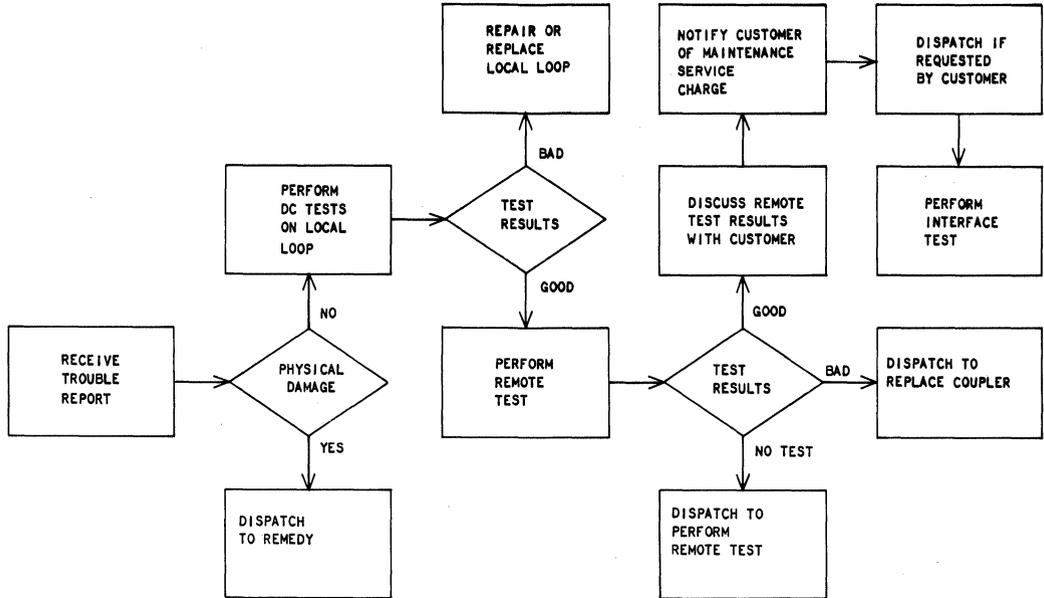
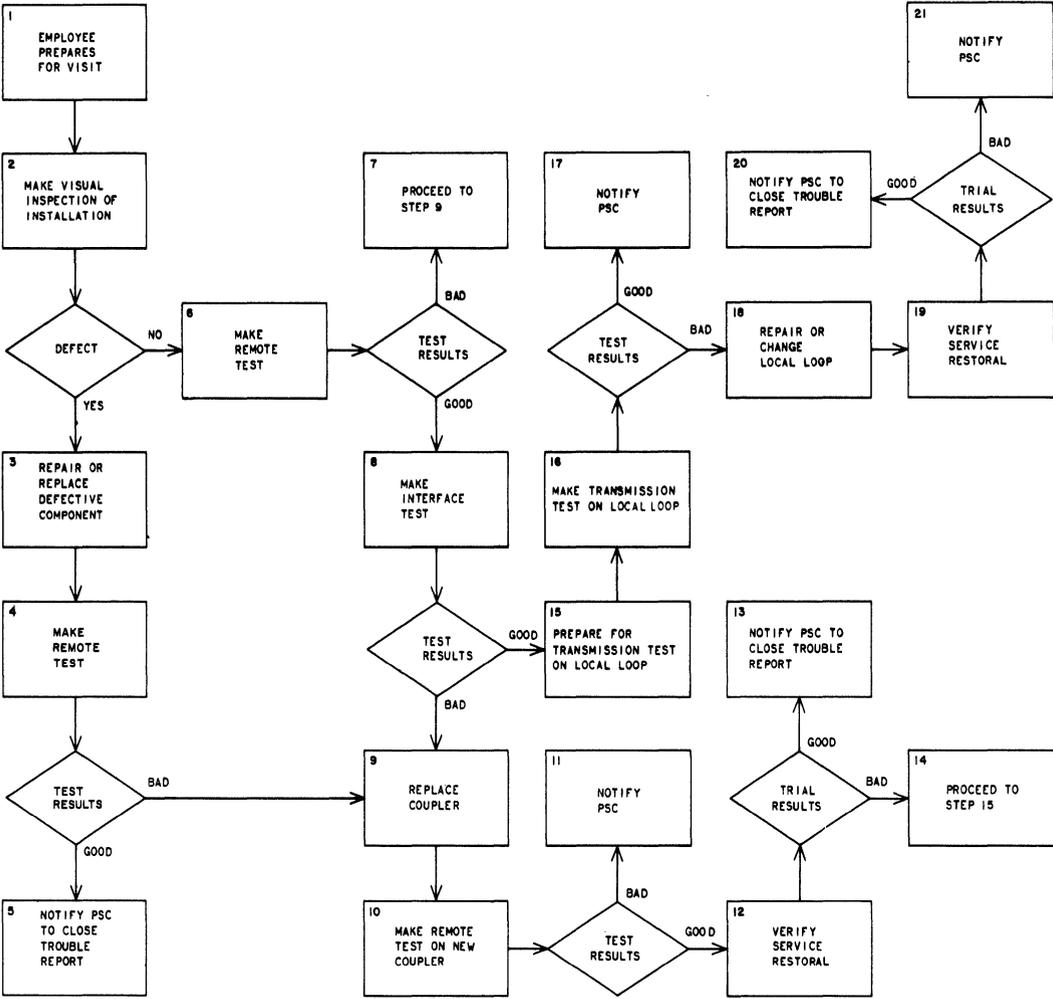

Fig. 13—Basic Activities Prior to Dispatching Employee
Fig. 14—Activities for Troubleshooting at a Coupler Station
trouble condition does exist and the most probable cause. Available tests (ie, normal dc loop test and remote test of coupler) should be performed to determine if a telco employee must be dispatched to customer premises. The conditions which could warrant a maintenance visit and the efforts which lead to each are shown in Fig. 13.
**5.06** On a maintenance visit, perform the most likely necessary tests or evaluations to isolate and clear the trouble within the station as directed by the PSC. Begin with the steps shown in Fig. 13 when the test results and analysis received from the PSC lead to that particular activity. If a trouble report is not available or if the report is inconclusive, follow the suggested sequence of activities as illustrated in Fig. 14 and described in the following: